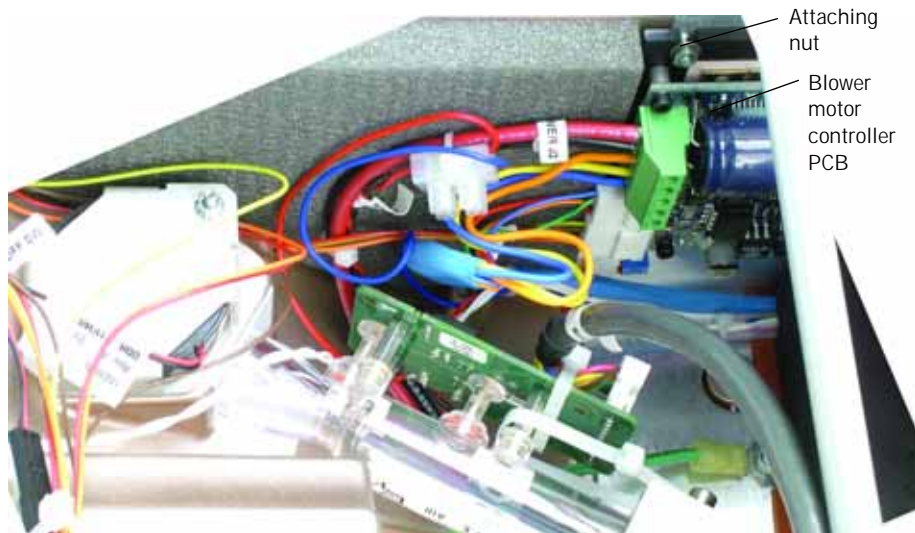

Figure 10-53: Blower Motor Controller PCB Installed
3. Remove the four M3 nuts that hold the blower motor controller PCB bracket (Figure 10-53). Partially remove the bracket.